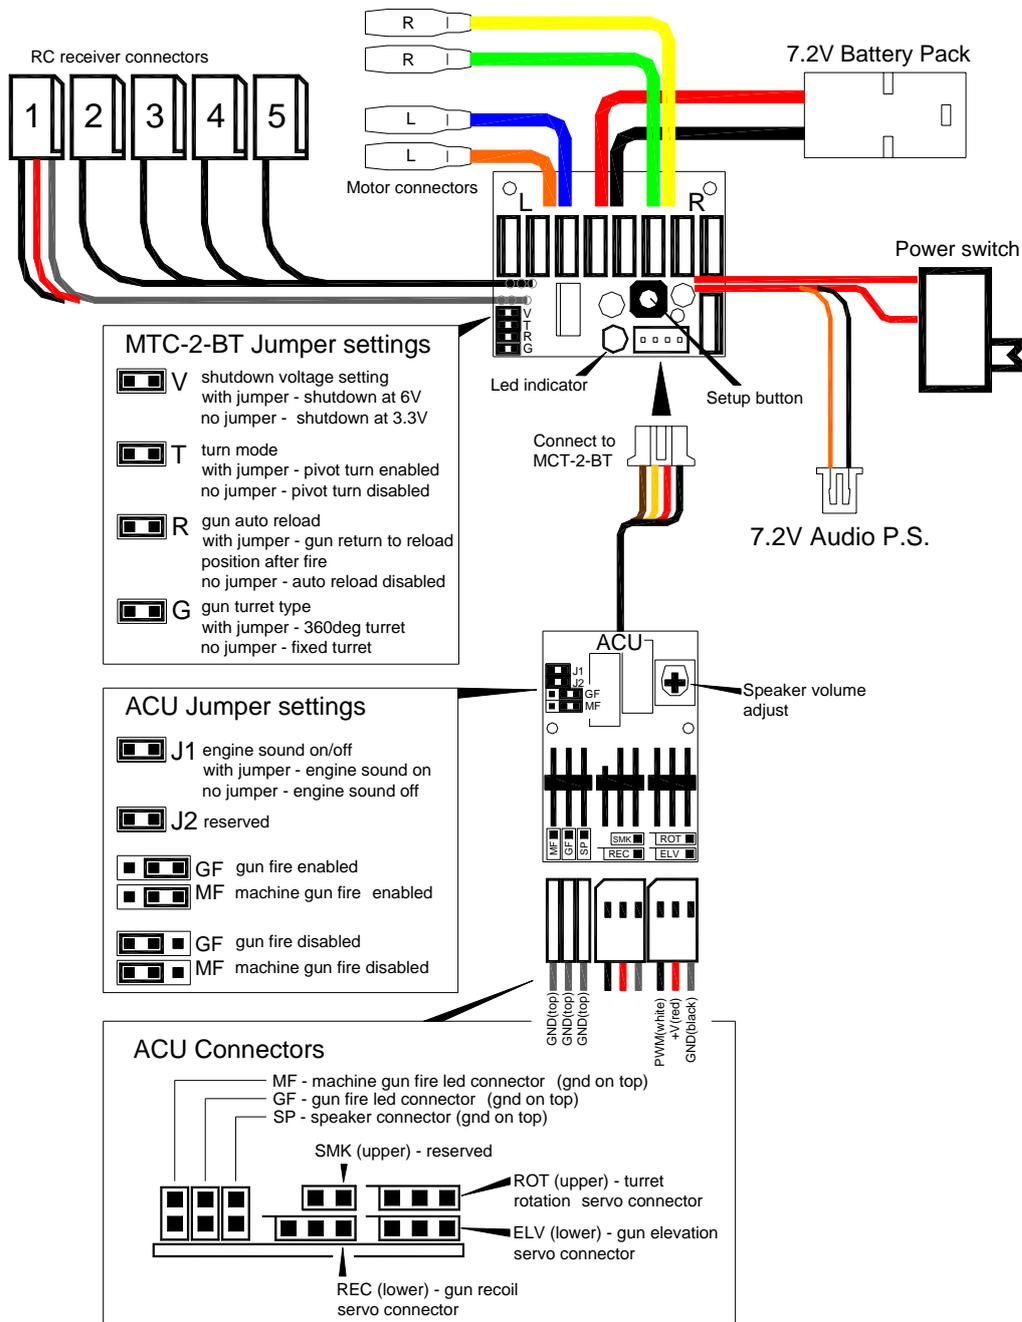

Fig.1 - MTC-2-BT and ACU auxiliary control unit
- 19) GF and MG jumpers – for enable/disable of gun fire and machine gun fire. See Fig.1 for jumper settings.
- Pivot turn is disabled when T-jumper is removed (Fig.1).
- Both sound effects can be disabled by jumper settings (Fig.1).